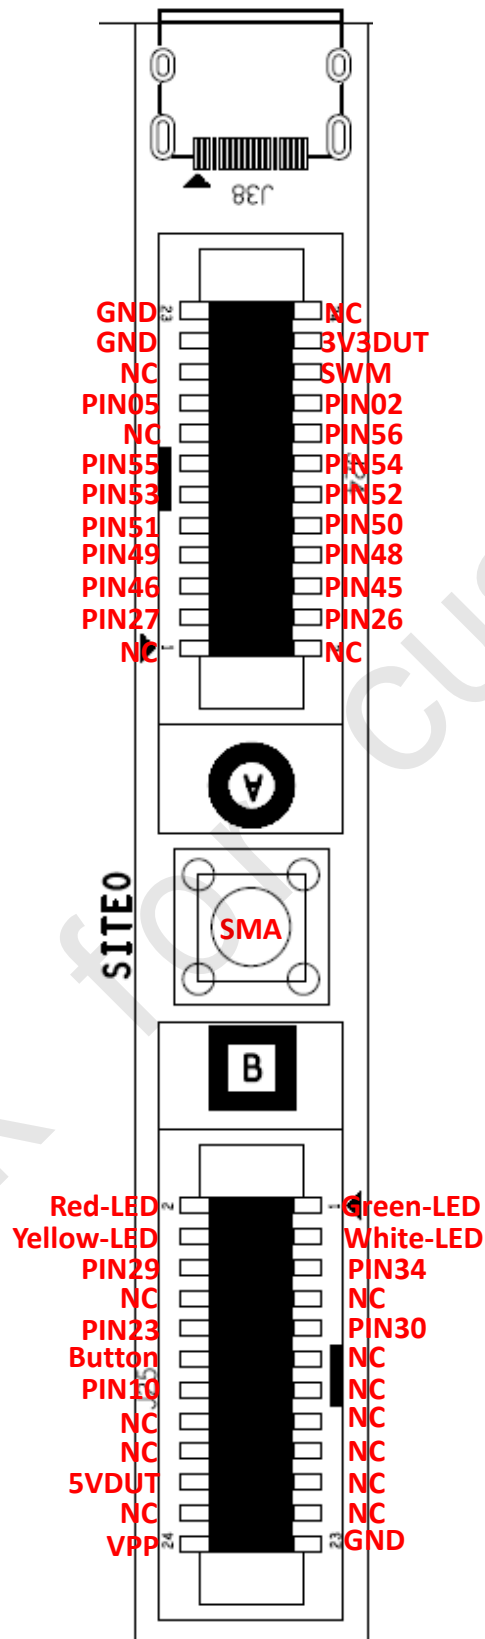

Figure 25 Pins on test site of Main board
- 1) In Figure 25, NC indicates no connection.